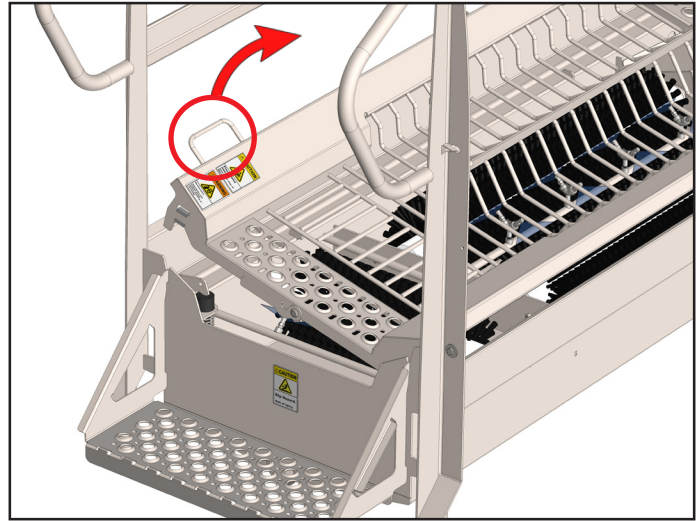

Fig. 10.1: Grate Lifting, shown on BLX-1000S
1. Shut down the unit (see pg. 9) and lift the grate up by its handle [Figure 10.1].